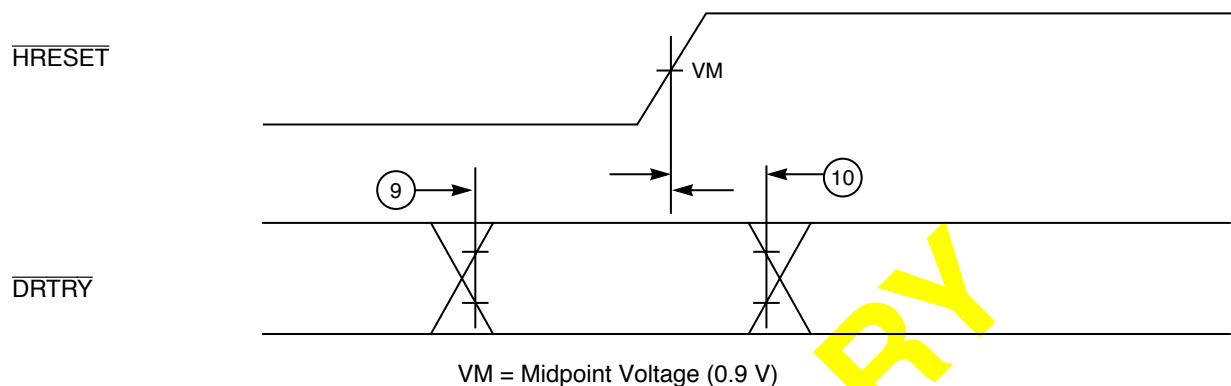

Figure 3. Mode Select Input Timing Diagram
- The setup and hold time is with respect to the rising edge of HRESET (see Figure 3).
Figure 3 provides the mode select input timing diagram for the 604e.